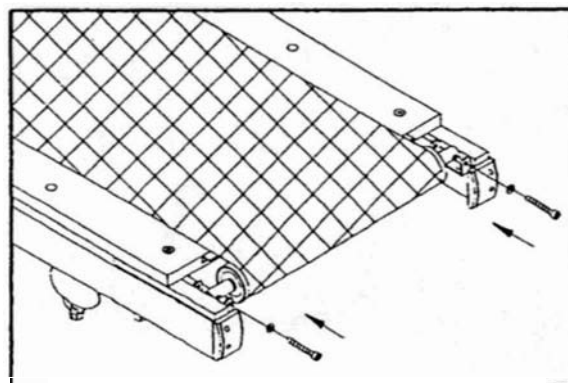

Fig.23
9. Tighten adjustment screws on the rear roller. (see Fig.23)